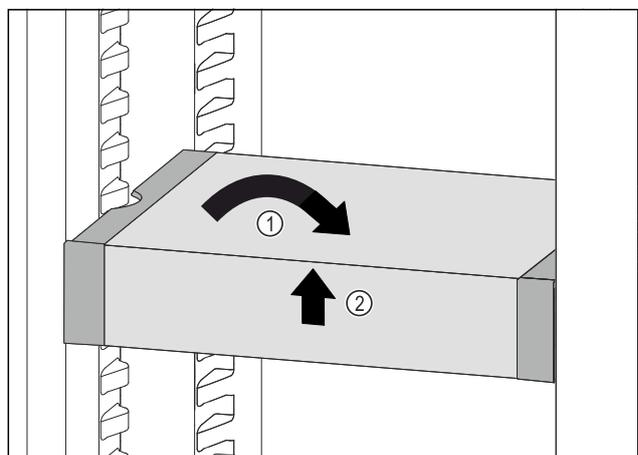

Fig. 89
- ▶ Set VarioSafe straight. Fig. 89 (1)
- ▶ Lift VarioSafe at the front. *Fig. 89 (2)*